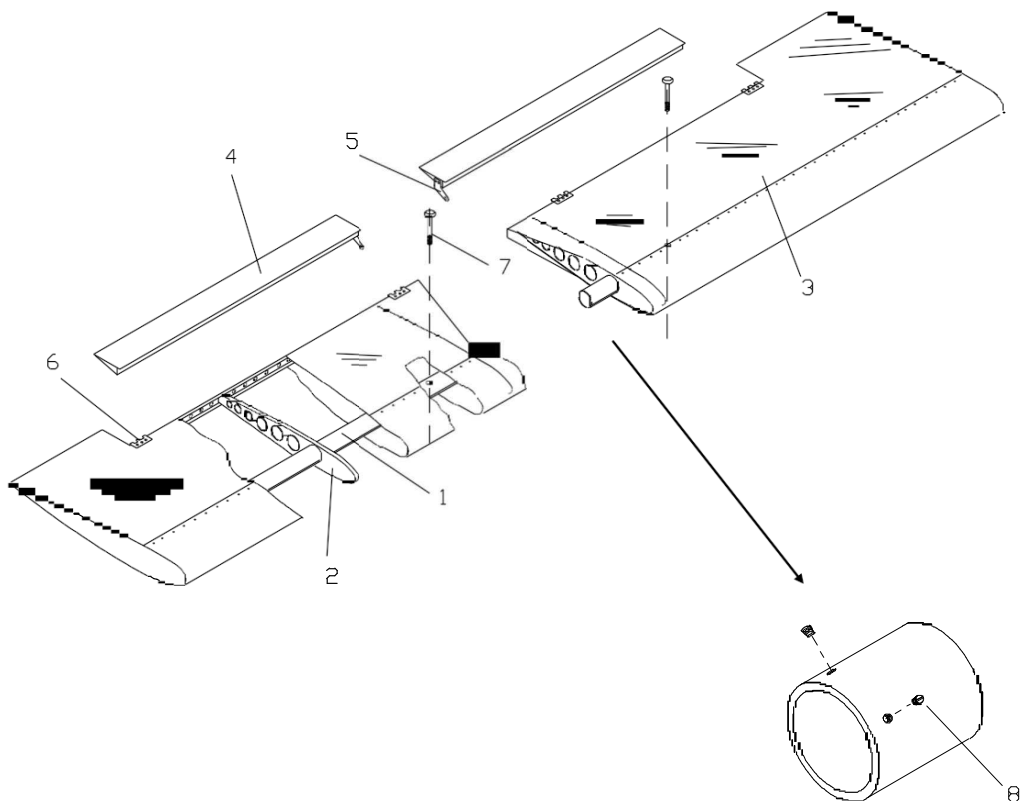

Figure 4-5 Stabilator
The stabilator structure (see fig.4-5) is made-up of an aluminum tubular spar (1) to which a series of ribs (2) and an aluminum leading edge (3) are riveted. Dacron heat-shrink wrap-around material covers structure.